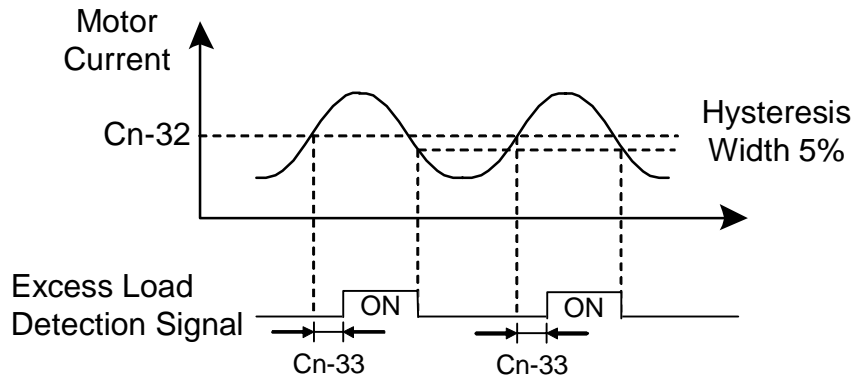

Fig. 23. Excess Load Detection Time Chart
(26) Excess Load Detection Level (Cn-32)
(27) Excess Load Detection Time (Cn-33)
- An excess load condition is detected when the output current exceeds the Excess Load Detection Level (Cn-32) for longer than the Excess Load Detection Time (Cn-33). See Fig.23 below.